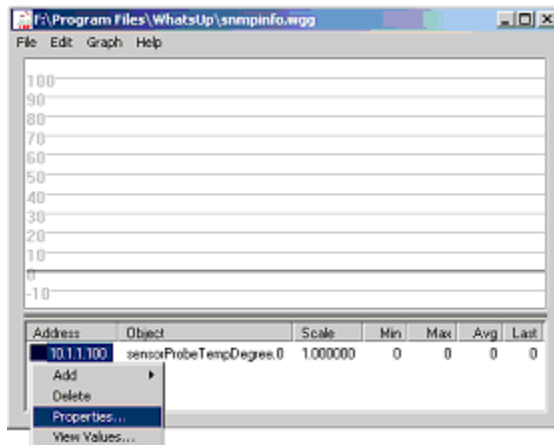

Figure 6 SNMP Graph Utility
- 1.2. Select Monitor to open SNMP Graph (see Figure 6).
2.1. Right-click on the IP address column of the desired SNMP variable as show in Figure 6.
- 3.1. Open the graph options dialog box (Figure 8) by clicking graph options from the graph utility the dialog box (Figure 6).